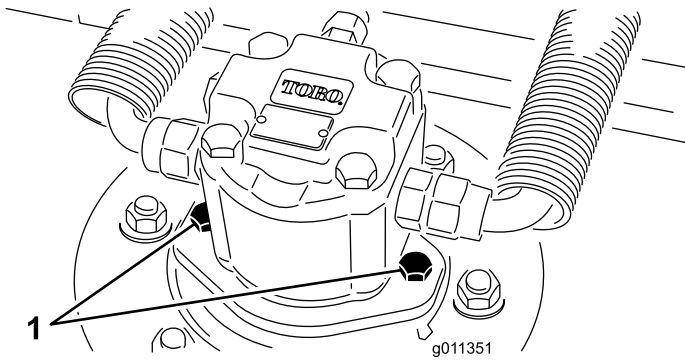

Figure 118
2. Disconnect and remove the hydraulic motor from the cutting unit (Figure 118). Cover the top of the spindle to prevent contamination.
3. Install the hydraulic motor to the cutting unit (Figure 118). Make sure that the O-ring is in position and not damaged.